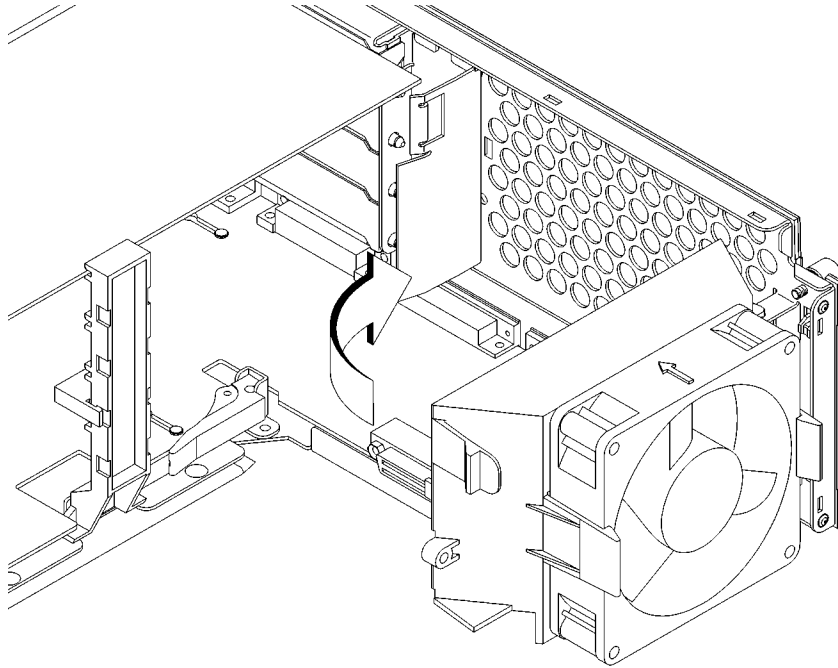

Figure 55
- 11** Rotate the fan back into place, as shown in Figure 55. Push it into the rear panel firmly until the clip snaps into place.